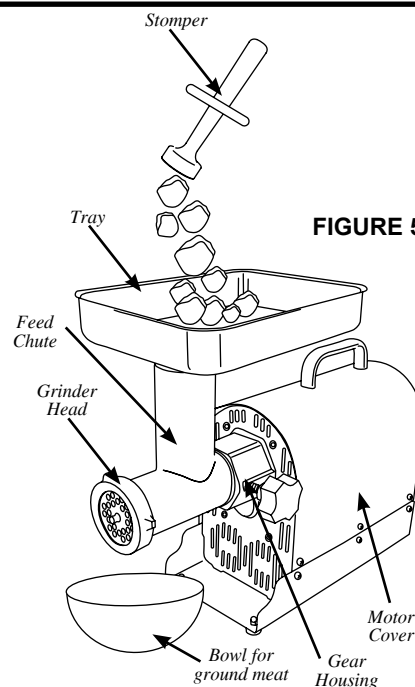

FIGURE 5
6. Place a dish or bowl to collect the ground meat at the end of the **Grinder Head** (Figure 5).